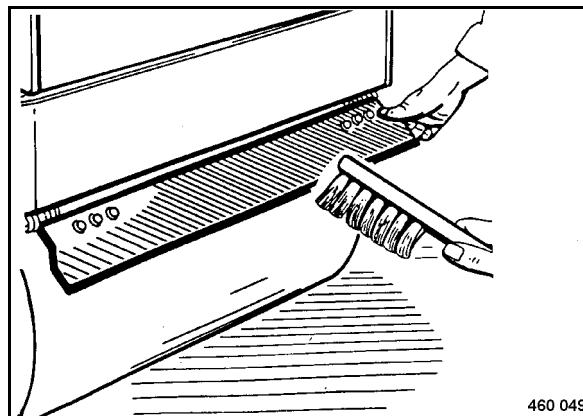

Fig. 85
- Fold the scrapers up and clean them (Fig. 85). This is of particular importance before compacting asphalt surfaces.